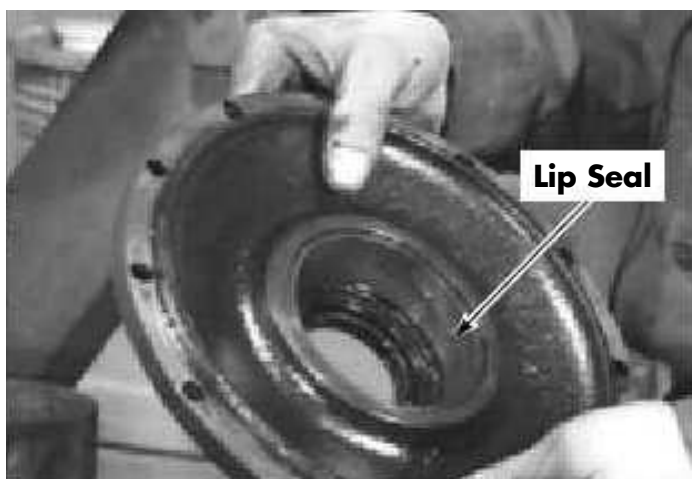

Figure 7-108. Bearing Cup and Lip Seal Removal
12. Remove the lip seal from the main cover. See Figure 7-108.